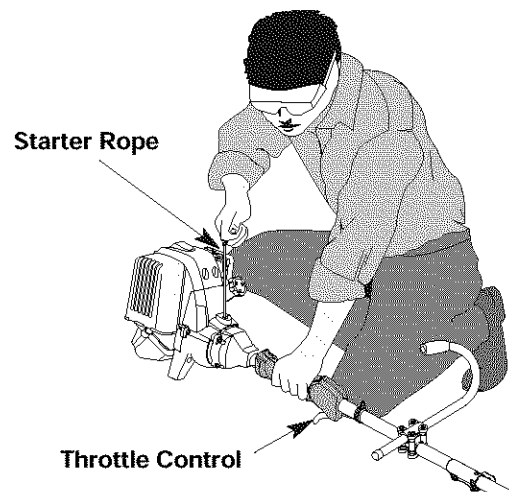

Fig. 12
WARNING: Avoid accidental starting. Remain in the starting position when pulling the starter rope (Fig. 12). The operator and unit must be in a stable position while starting to avoid serious personal injury.
5. With the unit in the starting position (Fig. 12), **DO NOT SQUEEZE THE THROTTLE CONTROL**. Pull the starter rope briskly 5 times. If the engine starts to run before the fifth pull, proceed to step 6. If the engine does not start, go back to step 4.
1. Release your hand from the throttle control (Fig. 12). Allow the engine to cool down by idling.